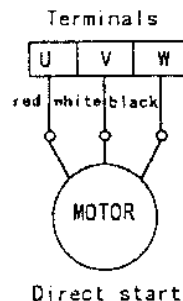

Figure 3
- a.) Wiring should be performed as indicated in Figure 3.